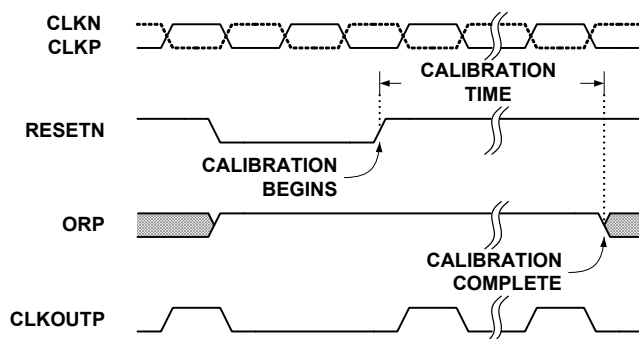

FIGURE 22. CALIBRATION TIMING
The calibration sequence is initiated on the rising edge of RESETN, as shown in Figure 22. The Over-Range (OR) output is set high once RESETN is pulled low, and remains in that state until calibration is complete. The OR output returns to normal operation at that time, so it is important that the analog input be within the converter's full-scale range to observe the transition. If the input is in an over-range condition the OR pin will stay high, and it will not be possible to detect the end of the calibration cycle.